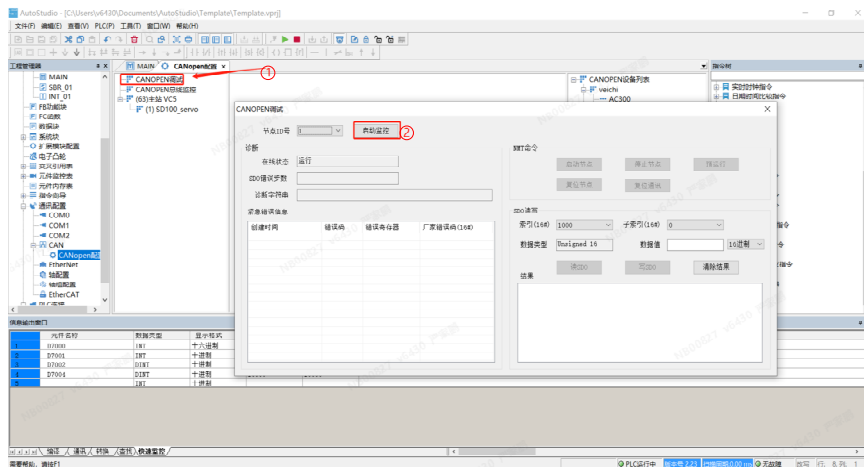

Figure 3-20 CANOPEN debugging monitoring
Step 1: Click the CANOPEN debugging option on the CANOPEN configuration interface, enter the CANOPEN debugging interface, and start monitoring, as shown in Figure 3-20.